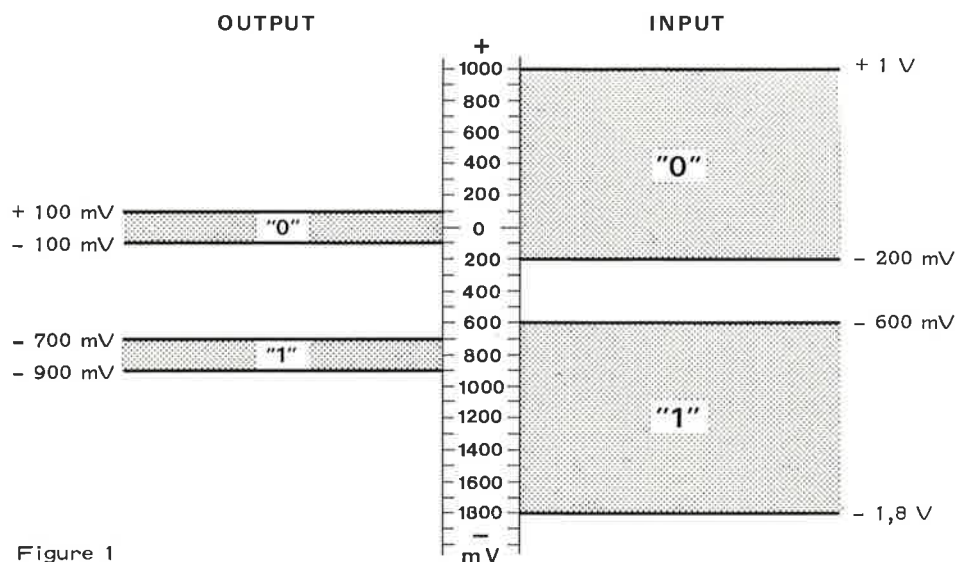

Figure 1
- 4) Minimum input: Reduce single input signal to 550 mV. All logic outputs must reach the output "1" band (≥ 700 mV), and the complementary output the output "0" band (≤ 100 mV), (figure 1). Try all inputs sequentially leaving scope connected to smallest output.